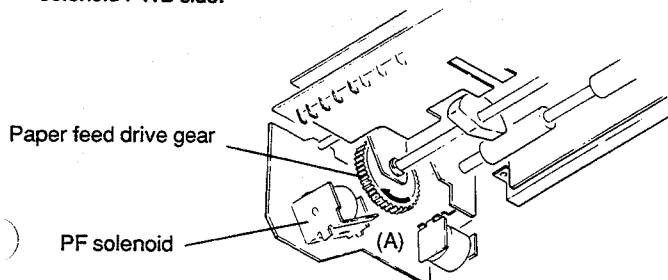
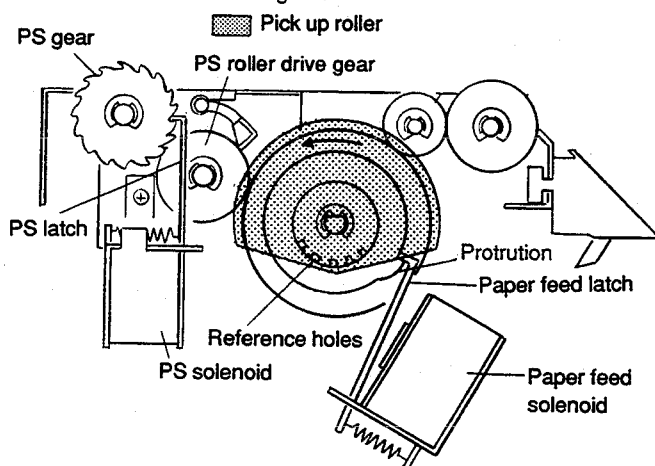

Fig. 9-0
Fig. 9-1
- ① Remove the paper feed unit from the printer, in reference to 8-5. Paper feed unit.
- ② As shown in Fig. 9-0, turn the paper feed drive gear in the arrow direction (A) until the clutch sleeve protrusion makes contact with the PF solenoid. Fig. 9-1 shows the figure when viewed from the solenoid PWB side.